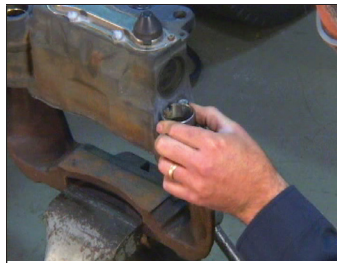

Figure 79 – Position the New Bushing
5.6.26 Place the new bushing (6) in position so that **when drawn into position, the tab will align with the slot in the casting.** With the tab aligned, place tool (T14) over the bushing and tap lightly. To position the bushing, see Figure 79.